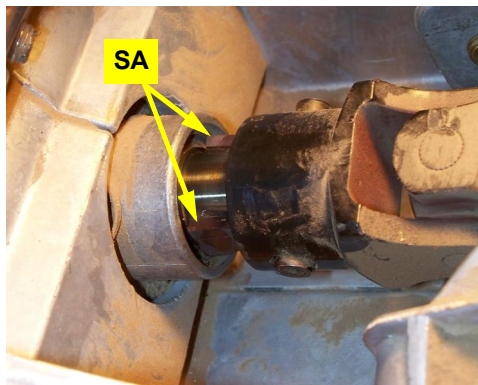

Figure 1d: Installed magnets
- d. Cut one of the magnets **SA** in half. Using the two-part epoxy **SB** attach the two magnet halves 180° apart from each other on the metal steering shaft (Figure 1d).